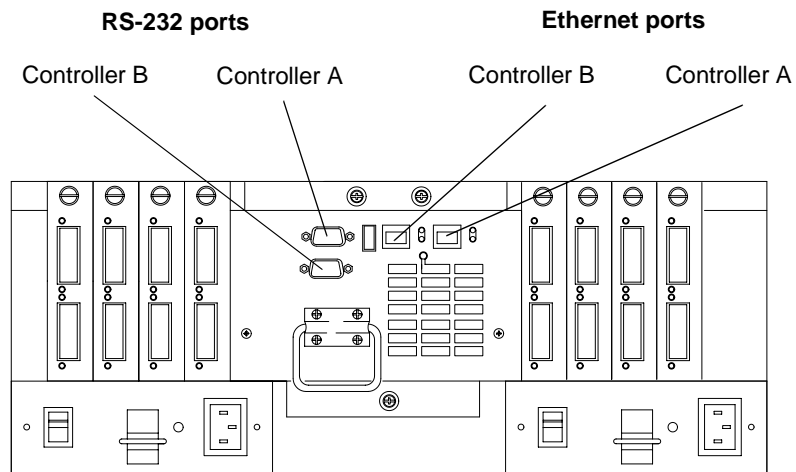

Figure 26. Connecting Ethernet and RS-232 interface cables
- 1 To directly manage a storage subsystem, connect a pair of Ethernet cables from the management station to the Ethernet ports for Controller A or Controller B on the back of the controller unit, as shown in Figure 26. For more information, see Figure 5 on page 7.
- 2 To perform diagnostic procedures, connect an RS-232 interface cable to an RS-232 port (see Figure 26 for the location of these ports).